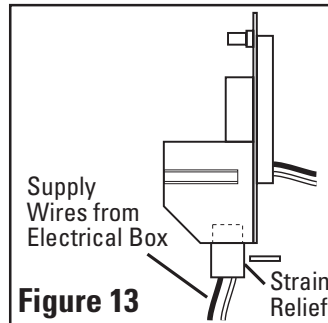

Figure 13
1. Before the drywall is installed, run wire from a nearby electrical outlet box or junction box through the supplied strain relief and into the hole in the mounting plate, leaving about 10" of excess to make the connections to the inlet. Secure the wire in place by tightening the strain relief (**Figure 13**).